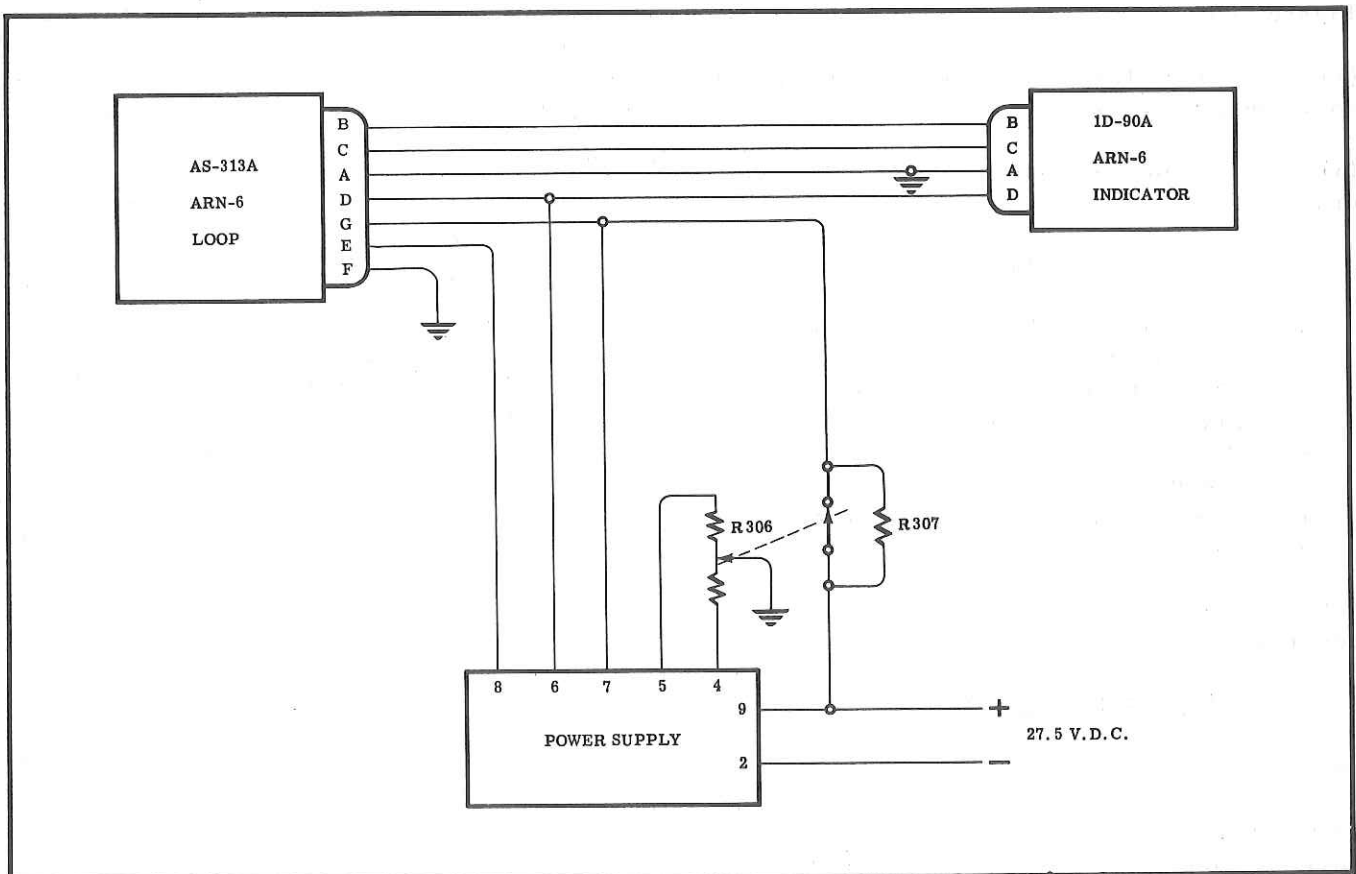

Figure 8-4 Radio Compass Loop Compensator Adjustment
(1) Connect loop as shown in Figure 8-4.
(2) Remove the compensator adjustment cover.
(3) Rotate loop until loop pointer is at 15 on black scale.